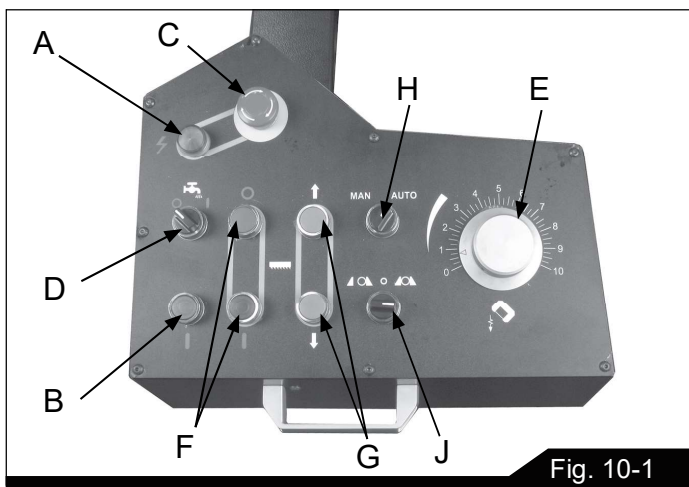

Fig. 10-1
Refer to Figure 10-1.
Rate of feed is adjusted with control dial (E, Fig. 10-1).
2. Turn handwheel (H) clockwise for a fine adjustment to create a 5 to 6 mm (1/4 in.) gap with workpiece.
3. Turn clamp switch (see J, Fig. 10-1) to the right to clamp the workpiece.
5. Release clamping pressure via the switch (J, Fig. 10-1).
6. Lift pawl (G) and manually retract vise jaw.